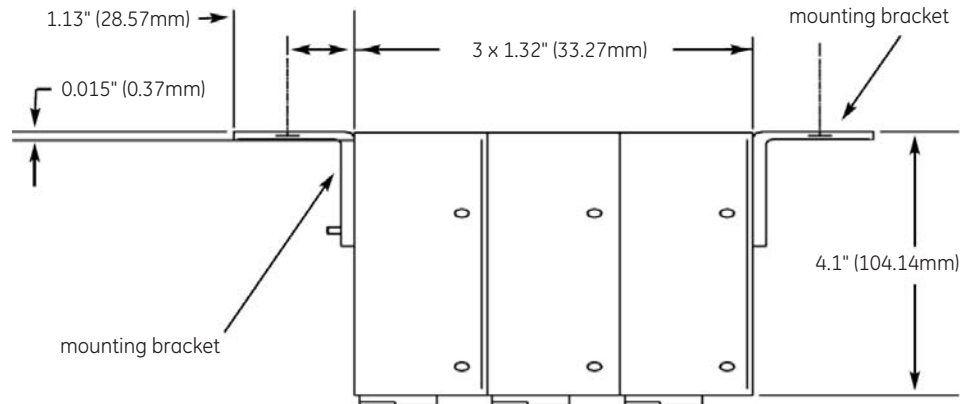

Figure 3-8: Input/output modules mounting (overhead view)
- ▷ If multiple input/output modules are connected together, as shown in Figure 3-8: *Input/output modules mounting (overhead view)*, or an individual module is used, secure the mounting brackets to both ends of the group (or individual module) using the screws supplied (#440 pan-head screws).